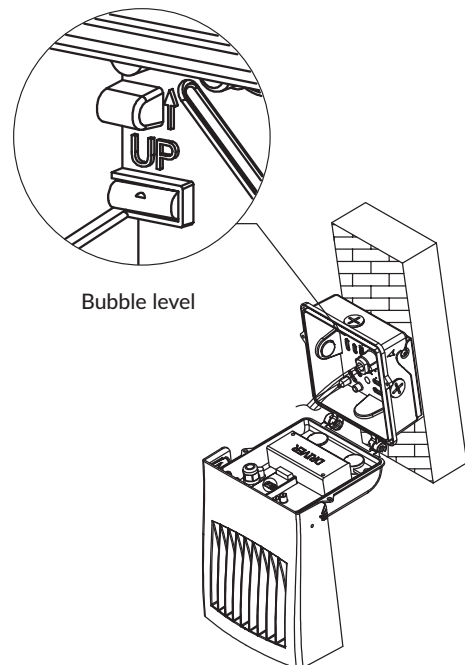

Figure 5
- Hang the luminaire on the mounting hooks and check the internal bubble level to verify that the fixture is plumb and level. (Figure 5)